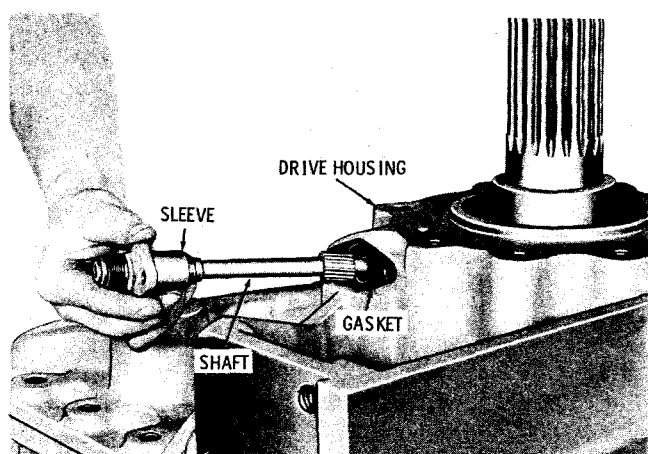

Fig. 7-32. Installing speedometer drive shaft assembly S1679
(5) Install the gasket, speedometer drive shaft assembly and sleeve into the output drive housing (fig. 7-32). Secure the assembly with two 5/16-18 x 7/8-inch bolts and lockwashers. Tighten the bolts to 13 to 16 pound feet torque.